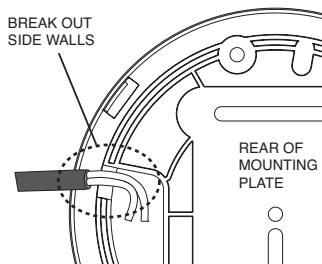

Figure 10a
3. If you are bringing the wiring along the surface, break out the two notches (see figure 10a).